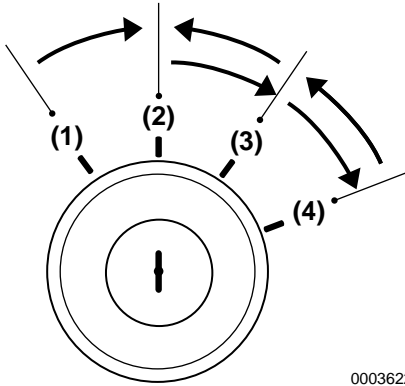

Figure 10
The GLOW position (**Figure 10, (1)**) is the start aid position. Electric current to the glow plug is turned on. When the key is released, the switch will automatically move to the ON position.
The START position (**Figure 10, (4)**) allows current to the starting motor. When starting the engine, move the key to the START position and release. The key will automatically move to the ON position.
When the key is in the OFF position (**Figure 10, (2)**) the electric current is off. The key can be inserted or removed in this position.
The ON position (**Figure 10, (3)**) allows electrical current to the controls and equipment and allows the engine to keep running. To stop the engine, keep the key switch in the ON position and push the stop button. After stopping the engine, turn the key to the OFF position.